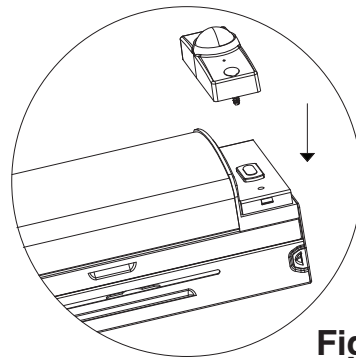

Fig. 3
3. Plug in the c-Max™ node (CN-RTPSW / NN-RTPSW) into the USB-C receptacle via the USB connection. (Fig. 3)